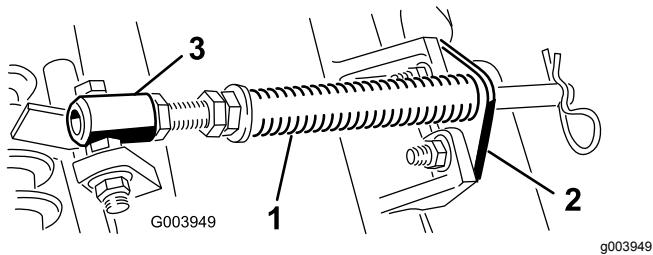

Figure 5
A. Remove the 2 carriage bolts and nuts securing the rod bracket to the cutting-unit tabs (Figure 5).
B. Remove the flange nut securing the spring-tube bolt to the carrier-frame tab (Figure 5) Remove the assembly.